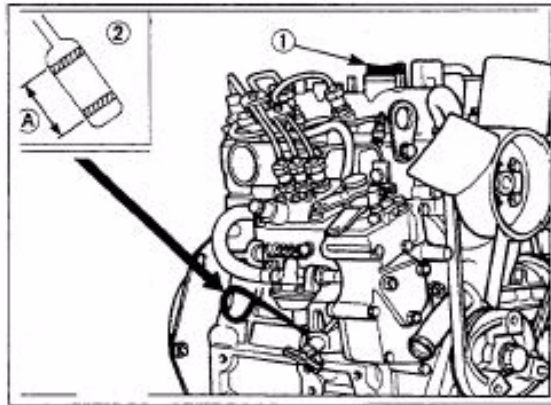

Figure 13. Engine Fill Cap
11. Add 6 liters (6 quarts US) of SAE 10W30 or 10W40 motor oil (see Figure 13).